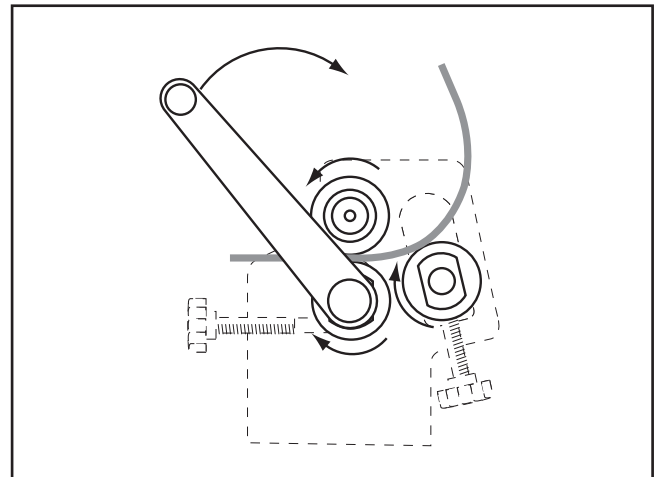

Figure 21. Processing the workpiece.
- Turn the crank to process the material through the slip roll. Continue turning until the workpiece is completely through the top and bottom rollers (**Figure 21**).